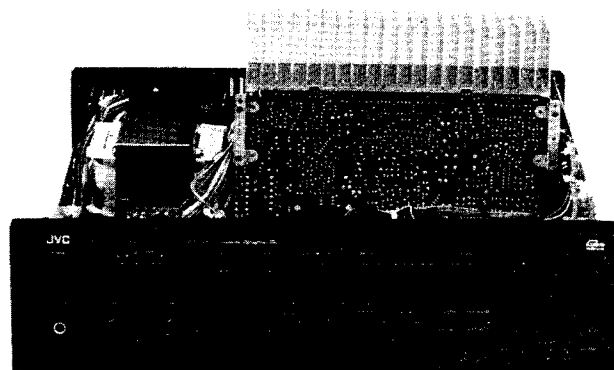

Fig. 3
3. Pull out the PC board as shown in Fig. 3.